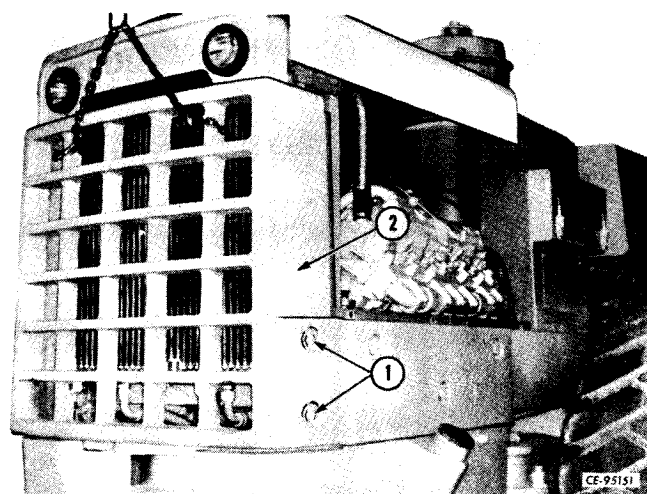

Figure 2-41
With a suitable hoist attached, remove cap screws (1, Fig. 2-41) on each side of the grille and lower grille (2) to floor.